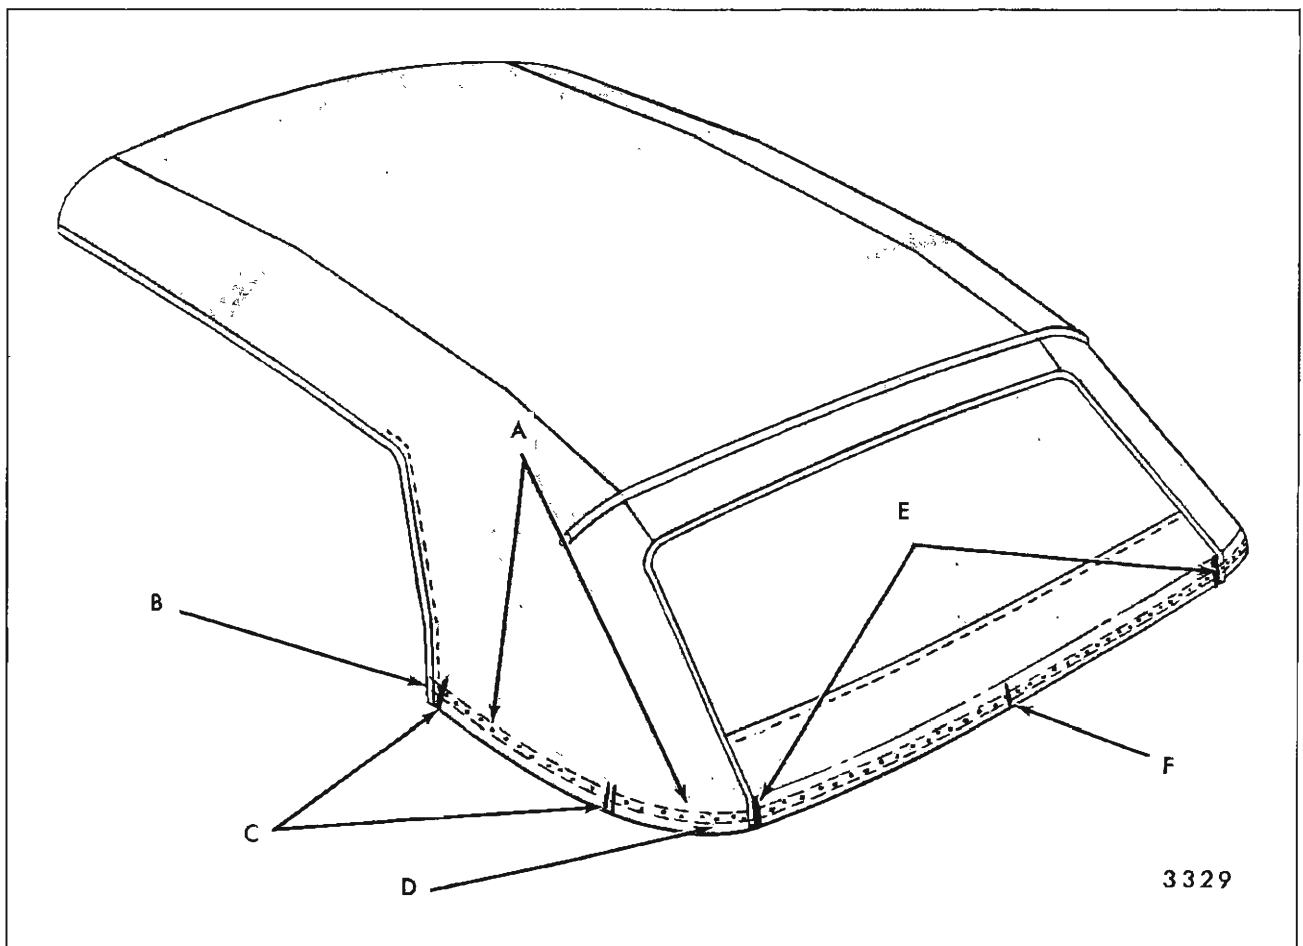

Fig. 13-24—Reference Marks on Top Cover and Back Curtain
Transfer location marks for trimstick(s) (upper and lower trimstick edges, as well as ends, Fig. 13-24).
6. As a bench operation, position and locate top cover to trimstick(s) according to reference marks and tack top cover to trimstick(s). Tack from top cover inner vertical edge reference on back curtain toward front. Avoid excessive stretching, but keep material flat during tacking operations (Fig. 13-24).
2. Mark position of top cover vertical edges on back curtain valance at rear belt line. Use sharpened grease pencil (Fig. 13-24).
12. Using a suitably sharp pencil, accurately mark location of complete rear trimstick(s) (upper and lower edges, and ends) on outer surface of top cover. Re-check, and mark right and left inner vertical edge of top cover on back curtain at trim stick (Fig. 13-24).
- Place folding top cover on folding top framework. Then, position and locate top cover to trimstick(s) according to reference marks, and tack top cover to trimstick(s). Tack from top cover inner vertical edge reference on back curtain toward front. Avoid excessive stretching, but keep material flat during tacking operations (Fig. 13-24).